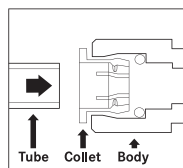

Fig.1
- ▶ Insert the tubing squarely (Fig. 1).